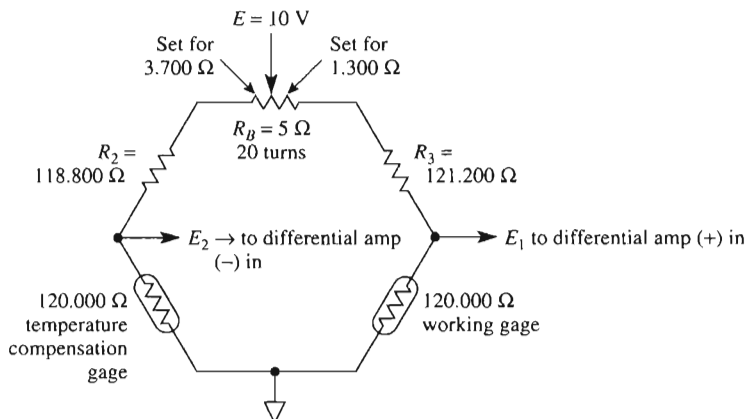

FIGURE 8-14 Balance pot R_B is adjusted in an attempt to make $E_1 - E_2 = 0$ V.
Suppose that you had a working gage and temperature-compensation gage in Fig. 8-14 that are equal to within 1 m Ω . To complete the bridge, you install two 1%, 120- Ω resistors. One is high by 1% at 121.200 Ω and one is low by 1% at 118.800 Ω . They must be equalized to balance the bridge. To do so, a 5- Ω , 20-turn balancing pot is installed, as shown in Fig. 8-14. Theoretically, the pot should be set as shown to equalize resistances in the top branches of the bridge at 122.500 Ω .
Further assume that an instrumentation amplifier with a gain of 1000 is connected to the bridge of Fig. 8-14. From Example 8-10, the *output* of the instrumentation amplifier (IA) will be about 22 mV per milliohm of unbalance. This means that the 5- Ω pot must be adjusted to within 1 m Ω of the values shown, so that $E_1 - E_2$ and consequently V_o of the IA will equal 0 V \pm 22 mV.